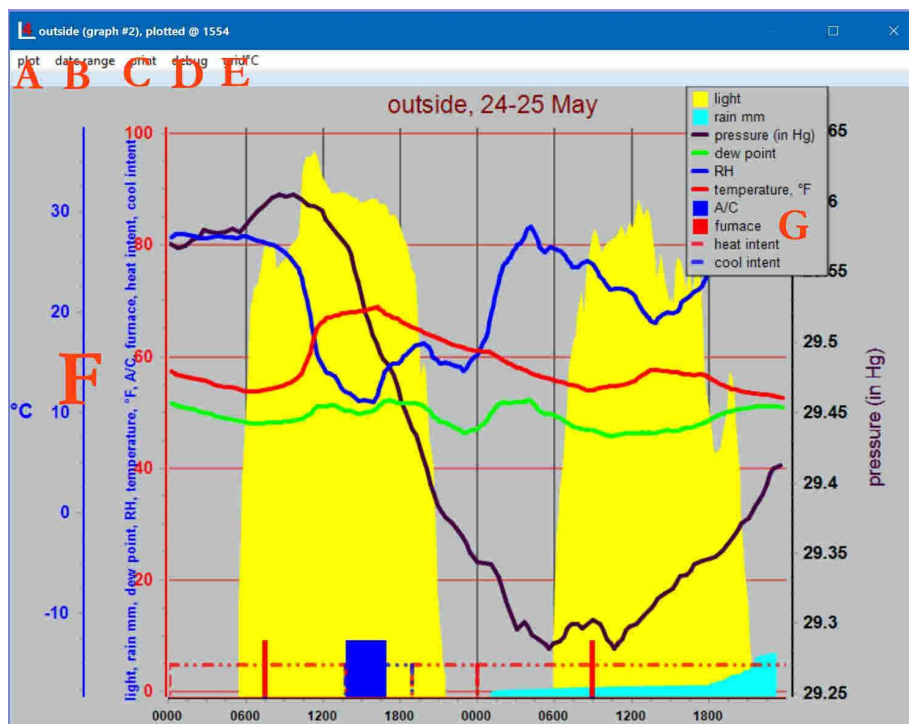

Figure 19, user-defined graph
- the order in which it is plotted. Plot order comes into play when series overlap, because later-plotted series overwrite the pixels of earlier-plotted ones. In Figure 19, for example, the big yellow light series was evidently plotted first, since every other series overwrites it.